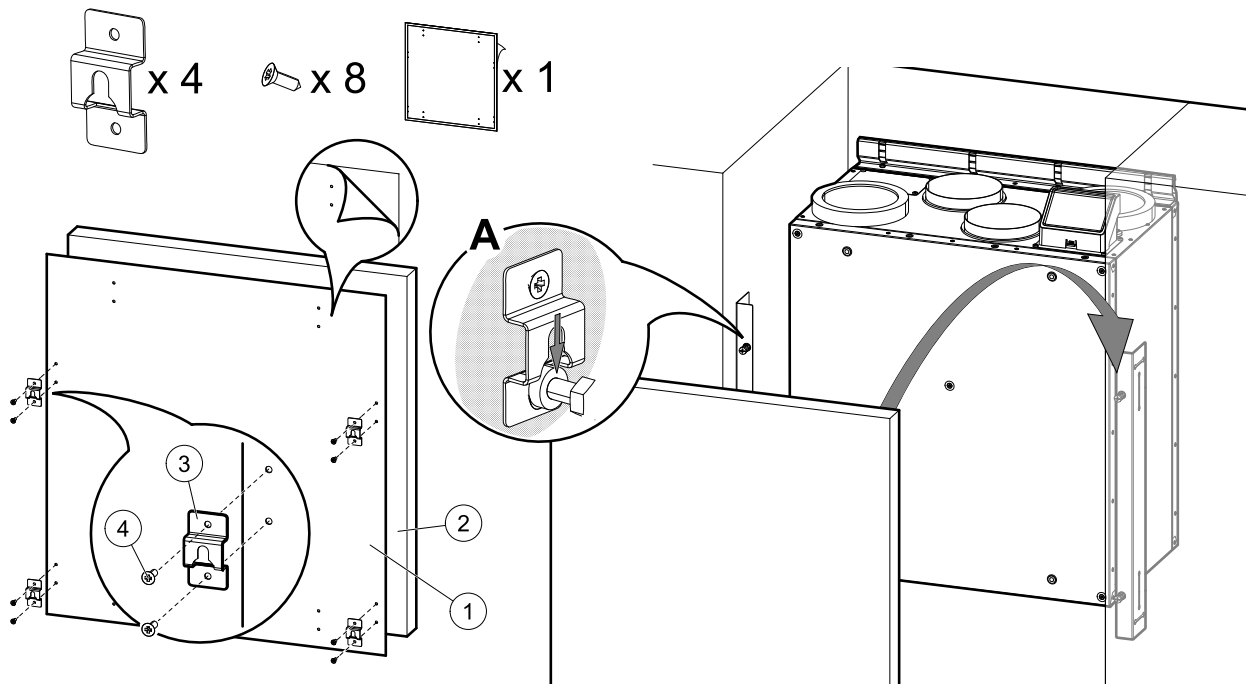

Fig. 22 Installation of hooks and mounting of the cover
2. Install four hooks near the edges on the kitchen furniture panel. Sticker with marked holes (figure 22, pos. 1) is included with the unit. Holes mark spots for screws to attach hooks. Place the sticker on a back of the kitchen furniture panel, figure 22, pos. 2). Size of the sticker is the same as the unit. Manually mark out distances from the edges in case the panel is bigger than the sticker.
Once correct position is found, attach four hooks (figure 22, pos. 3) by fastening each with two screws (figure 22, pos. 4). Hang the panel on protruding bolts (figure 22, pos. A).